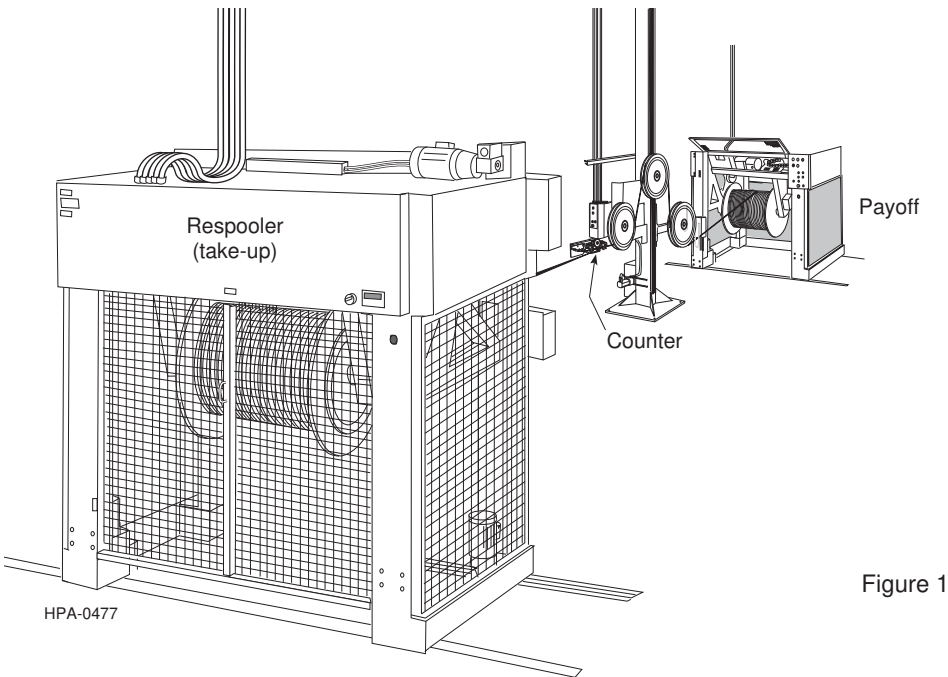

Figure 1
1.1 Improper use of a respooler (Figure 1) can cause damage to a cable jacket or result in wavy fiber in tight buffered cables due to cable crossovers or excessive tensile loading. This document provides a recommended procedure for cutting and respooling Corning Cable Systems fiber optic cables.
- Roll the reel under the payoff so that the cable comes off the top of the reel towards the counter and respooler (takeup) (see Figure 1).